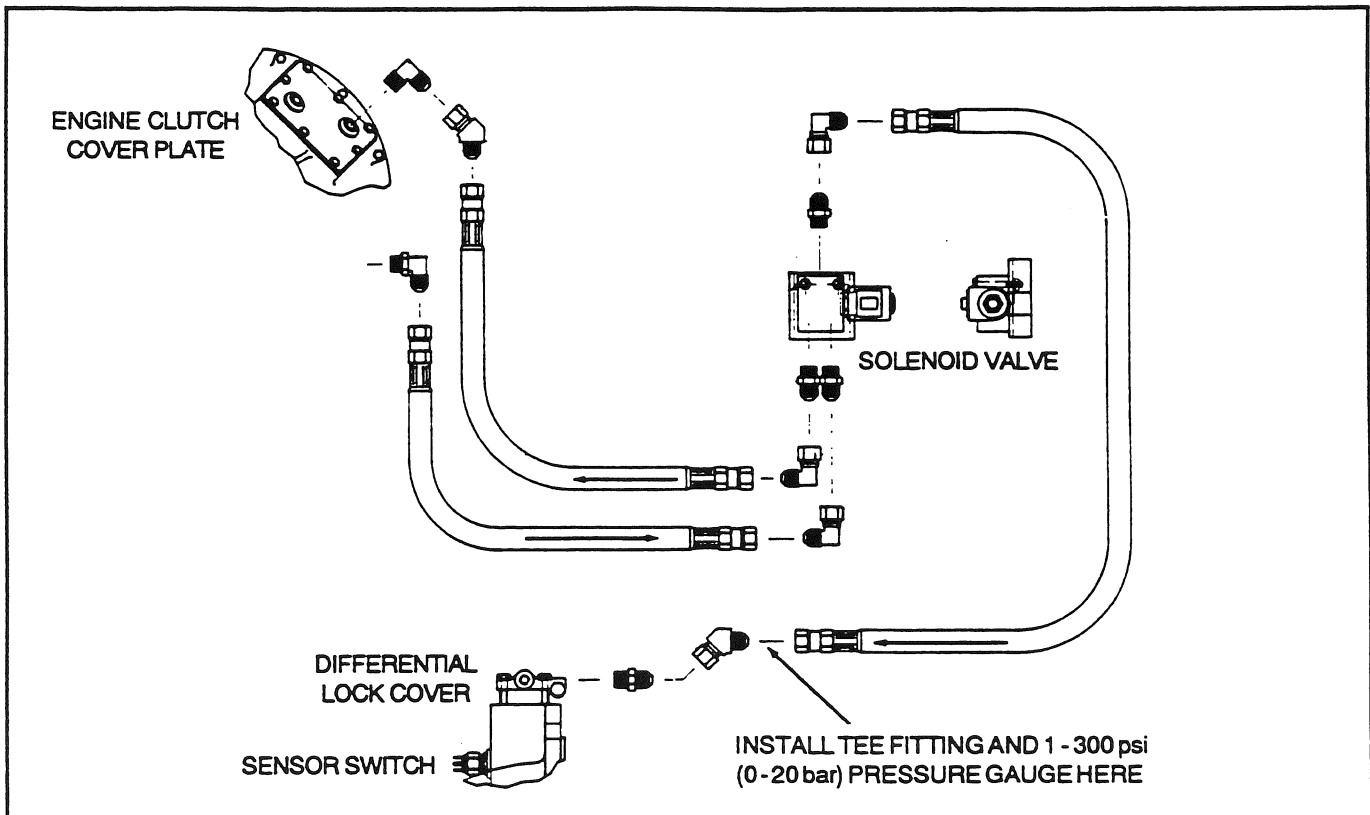

Fig. 101
3. Install a tee fitting and 0 - 300 psi (0 - 20 bar) pressure gauge at the differential lock cover inlet to determine operation of the solenoid valve (see Fig.101).